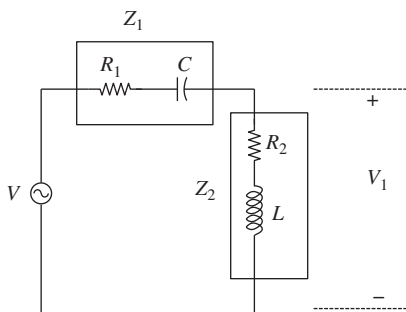

Figure P5.22 Voltage division for problem P5-22.
- 5-22.** A sinusoidal voltage source $V = 110\sqrt{2}\angle -23.2^\circ \text{ V}$ is applied to an circuit shown in Fig. P5.22, where $Z_1 = R_1 - jX_C \Omega$ and $Z_2 = R_2 + jX_L \Omega$. The voltage V_1 is given by